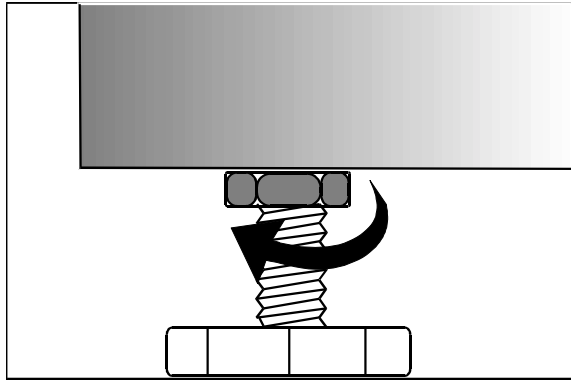

fig. 1
- Undo the locking nuts (fig. 1).